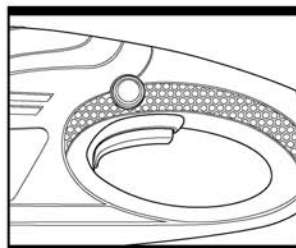

Fig. 4
3. SWITCHING ON AND OFF (Fig. 4)